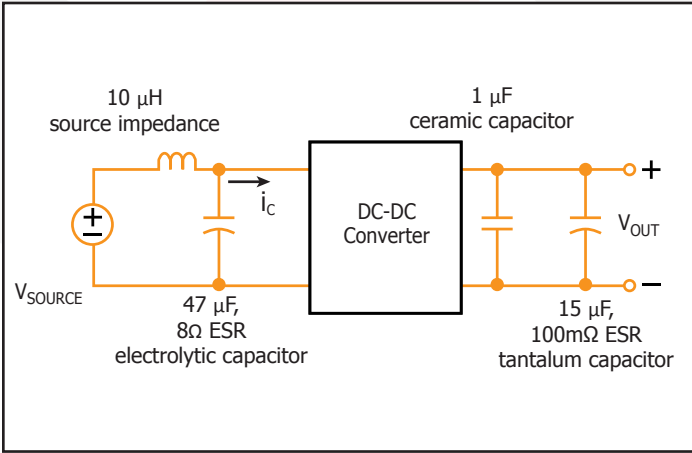

Figure 17: Test set-up diagram showing measurement points for Input Terminal Ripple Current (Figure 9) and Output Voltage Ripple (Figure 10).
**Figure 9:** Input terminal current ripple,  $i_C$ , at full rated output current and nominal input voltage with SynQor MCOTS filter module (50mA/div). Bandwidth: 20MHz. Timescale: 1.00 $\mu$ s/div. See Figure 17.
**Figure 10:** Output voltage ripple,  $V_{out}$ , at nominal input voltage and rated load current (50mV/div). Load capacitance: 1 $\mu$ F ceramic capacitor and 15 $\mu$ F tantalum capacitor. Bandwidth: 20MHz. Timescale: 1.00 $\mu$ s/div. See Figure 17.